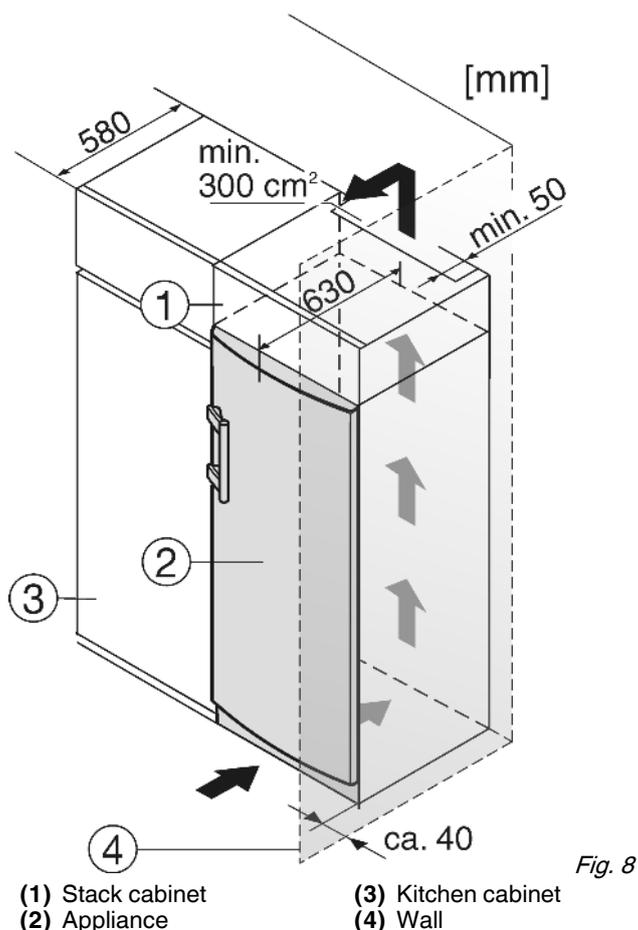

Fig. 8
- (1) Stack cabinet (3) Kitchen cabinet
(2) Appliance (4) Wall
The appliance can be inserted into a row of kitchen units. To match the appliance Fig. 8 (2) to the height of the row of units, a suitable stack cabinet Fig. 8 (1) can be fitted above the appliance.
When inserting the appliance into a row of kitchen units (max. depth 580 mm), the appliance can be installed directly next to the kitchen unit Fig. 8 (3). The appliance door projects relative to the front of the kitchen unit by 34 mm at the side and by 50 mm in the middle of the appliance. It can be opened and closed perfectly as a result.
If the appliance is installed with the hinges next to a wall Fig. 8 (4), the distance between appliance and wall has to be at least 40 mm. This corresponds to the projection of the handle when the door is open.